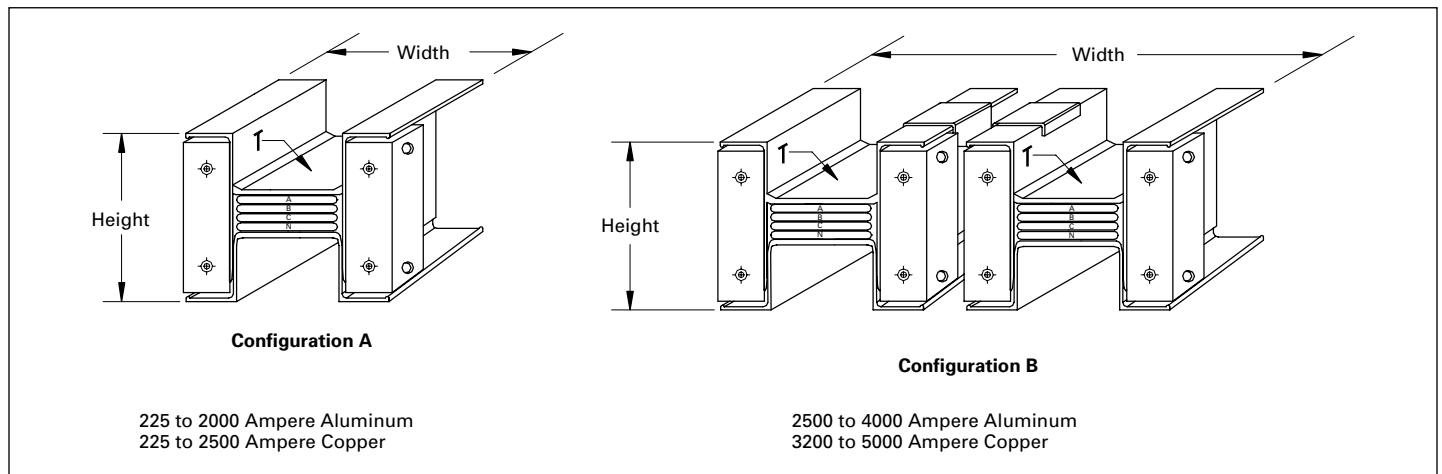

Figure 24.1-80. Pow-R-Way III Cross-Section Dimensions
① 100% ground available with same dimensions that use 50% internal ground and 50% internal housing ground.
② Refer to Figure 24.1-80 on Page 24.1-49 for configuration A and B.
③ 100% ground available with same dimensions that use 50% internal ground and 50% internal housing ground.
④ Refer to Figure 24.1-80 on Page 24.1-49 for configuration A and B.
① Neutral bar is 0.5 (12.7) x Width shown.
② 100% ground available with same dimensions that use 50% internal ground and 50% integral housing ground.
③ Refer to **Figure 24.1-80** for Configuration A and B.